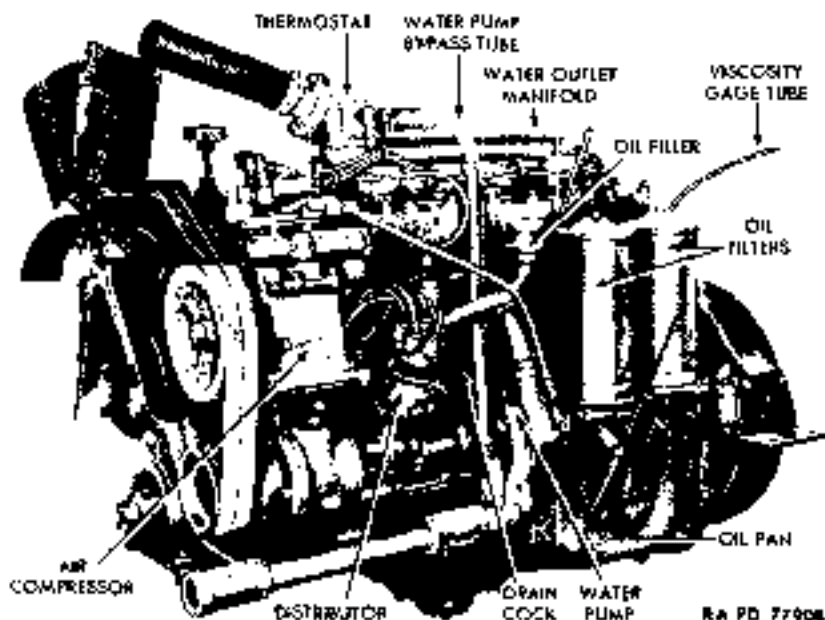

Figure 11 - Engine - Left Front
a. Description (figs. 11 and 12).
(1) The engine is a Hercules RXC 6-cylinder internal combustion gasoline engine of the "L" head type. The crankcase is cast integral with the block. Full length water jackets provide maximum cooling efficiency. A seven-bearing counterbalanced crankshaft is fitted with brass-backed replaceable type bearings. It has forged steel rods and cam ground, aluminum alloy pistons. The exhaust valve seats are a heat-treated cast-iron alloy. Water is drawn from the radiator by a gear driven pump, then forced through a long water manifold into the engine. A water bypass tube, which leads from the water connection on the front cylinder head to the coupling connection at the water pump, provides adequate circulation of the cooling fluid when the thermostat is closed. The engine is supported in the chassis by a three-point rubber mounting. The rear support arms are cushioned on brackets riveted to the side frame members. The trunnion type front support bracket, bolted to the engine support crossmember, permits the engine to pivot slightly with the torsional twist of the frame when the vehicle is being operated over rough ground.
a. Drain Cooling System. Open the two drain cocks, one of which is located on radiator outlet elbow, the other on the side of cylinder block above the water pump (fig. 11).